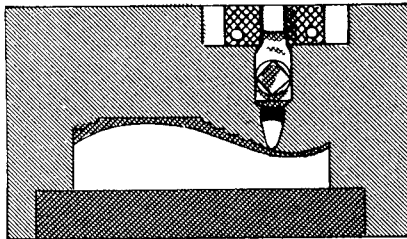

FIG. 514
2. Move the tool down and the work to the right, cutting down to the bottom of the curve and machining the surface parallel with, and to within $1/32$ " of, the contour line (Fig. 514).
3. Observe that when the tool has reached the bottom of the curve (Fig. 514), it must be raised while the movement of the work continues toward the right. Observe also that the back lash must be taken out of the down-feed screw before the tool will move upwards. (Refer to page 66.)